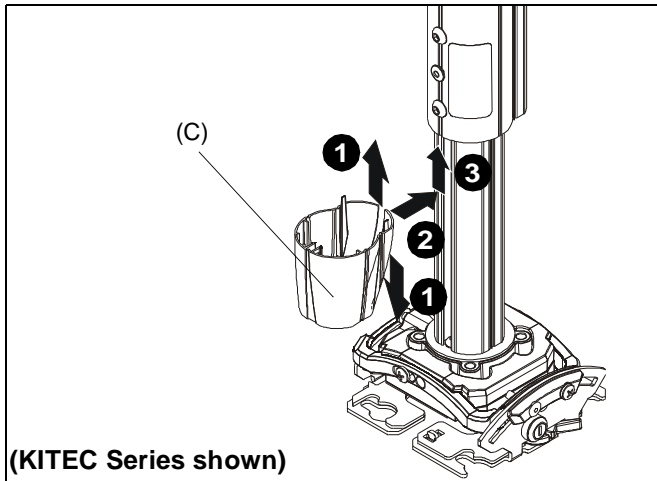

Figure 29
1. Maneuver transitional cover (C) so that it is able to wrap around lower part of extension column. (See Figure 29)
2. Wrap transitional cover (C) around lower part of extension column. (See Figure 29)
3. Press transitional cover (C) into the base of upper part of extension column until the transition cover clicks into position. (See Figure 29)